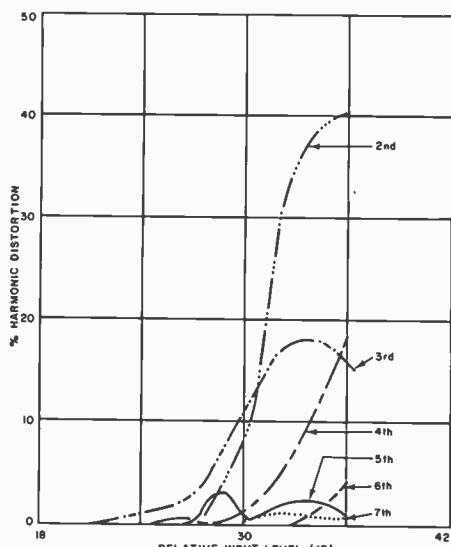

Fig. 3. Distortion components for two-stage triode amplifier (top) and for a multistage capacitor-coupled transistor amplifier (bottom).
2). But at the same time, he found reason to attribute the preference for tube sound to the spectral distribution of distortion products (Fig. 3). In a fascinating discussion based on the techniques for musical instrument design, Hamm suggested that the triode's generation of second-order harmonic distortion during overload made the sound fuller, which would account for the more satisfying dynamic range that listeners heard when tube electronics was used. He also identified harmonics above the seventh as the cause for the sharply defined "edge" we hear on tones from instruments like violins and trumpets. This "edge" is purportedly a loudness cue to the human ear. When we hear it unsupported by a strong second harmonic (presumably the result of transistor clipping), the sound is overly loud, annoying, and "glassy." When